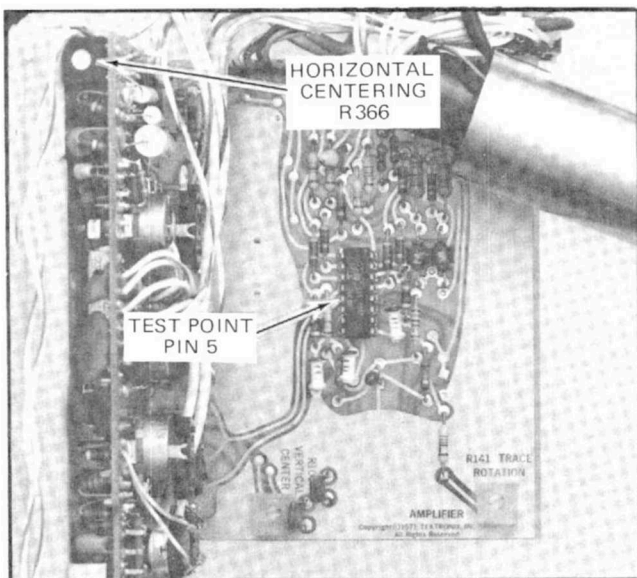

Fig. 4-9. Location of Horizontal Centering adjustment and test point.
a. Connect the DC Voltmeter between pin 5 of U105, on the Amplifier (A-2) board, (positive meter lead to pin 5) and ground. See Fig. 4-9.